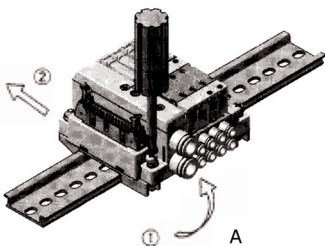

Figure 5
- Removal procedure (see Figure 5):